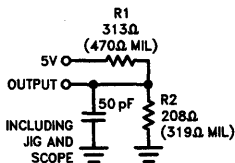
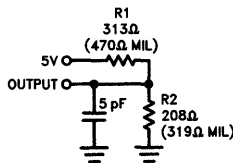

Figure 5a
Figure 5b
- Figure 5a test load used for all parameters except tCEA, tCER, tPZX and tPXZ. Figure 5b test load for tCEA, tCER, tPZX, tPXZ.